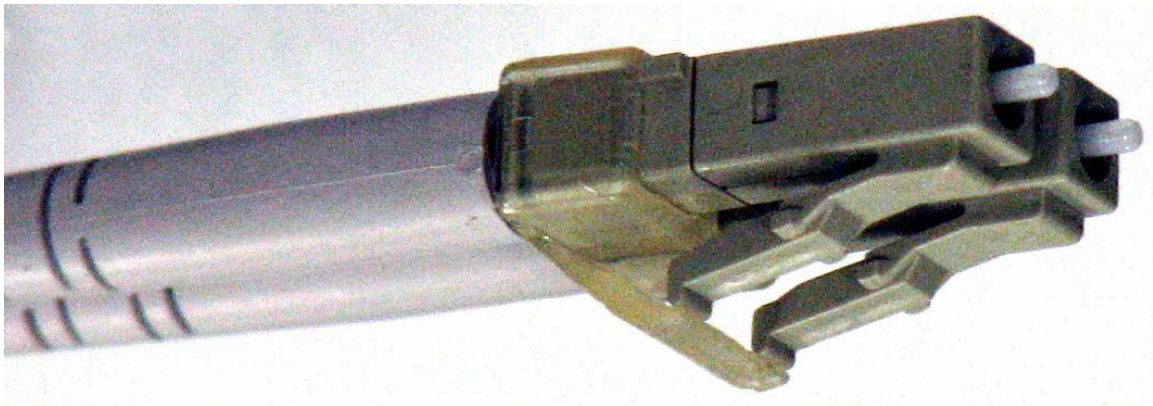

FIGURE 4-3. The Tips of the LC Duplex Cable.
3. The tips of the LC Duplex cable are packaged with a protective covering. (The protector might be a cap over the white tips of the white tips of the LC cable or a clipped-on shell). Remove the cover before use. See Figure 4-3.